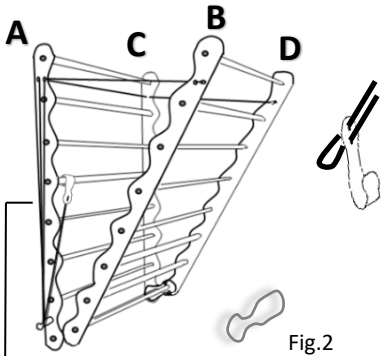

Fig.2
Spindle (Fig 2) is attached to the inside of unit for protection during delivery only.
- On the side which you intend to operate the Laundry Ladder, attach the spindle (fig.2) to the outside (**this is found inside the Laundry Ladder for delivery ONLY, to protect it**) using the hole at the bottom of the back frame.